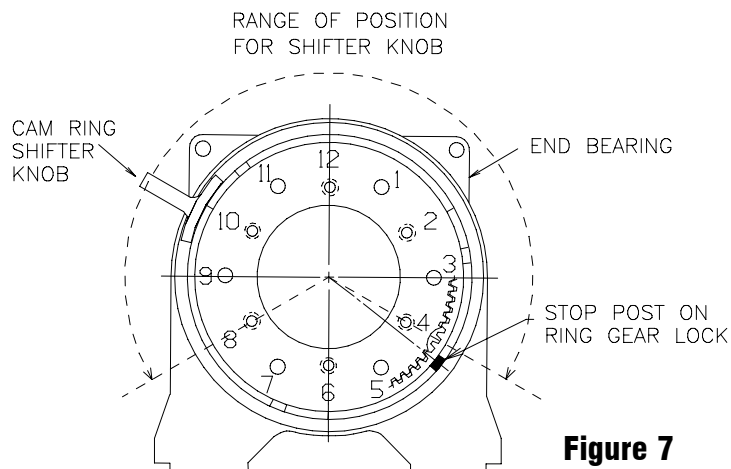

Figure 7
5. Determine position shifter knob needs to be for your application. **Note:** Shifter knob cannot be positioned too low or it will interfere with the feet on the Gear End Bearing (see Range of Position in Figure 7).